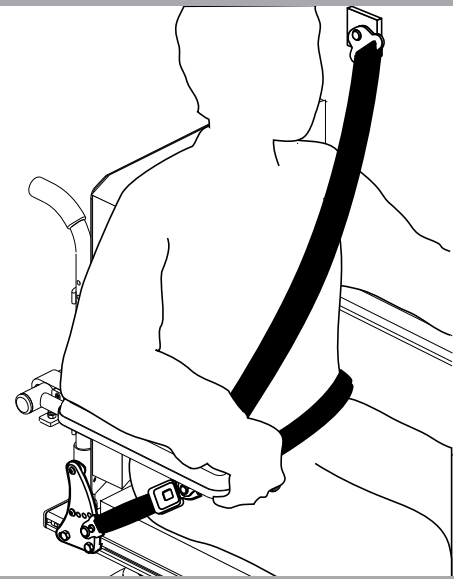

Figure 13. Proper Upper-torso Belt Placement
- Place the upper-torso belt across the middle of the shoulder and the center of the chest, and connect to the pelvic belt that is secured to the floor of the vehicle. **See figure 13.**